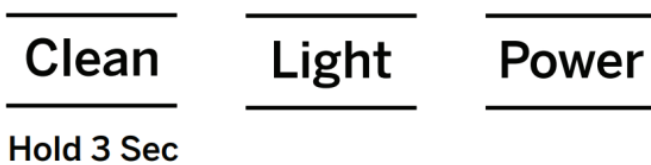

Figure 9
16. When complete, fill unit with fresh water and press the 'Power' button to start making ice. See figure 9.